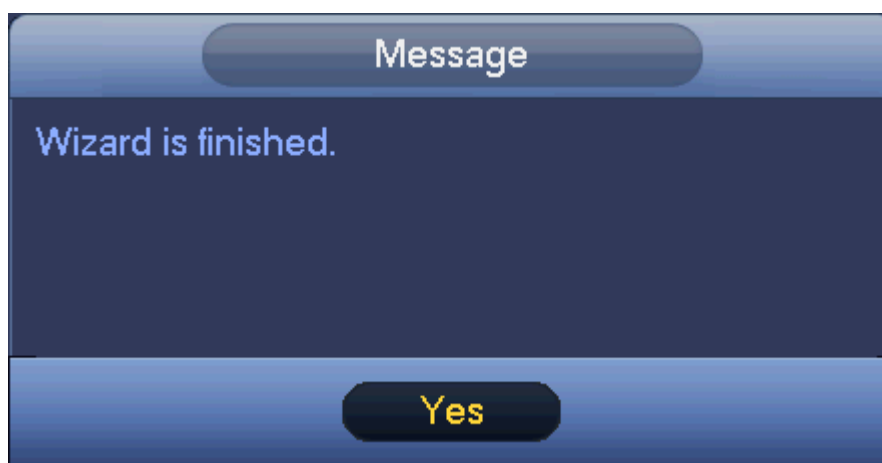

Figure 4-36
- Step 7 Click Finish button, system pops up a dialogue box. Click the OK button, the startup wizard is complete. See Figure 4-36.